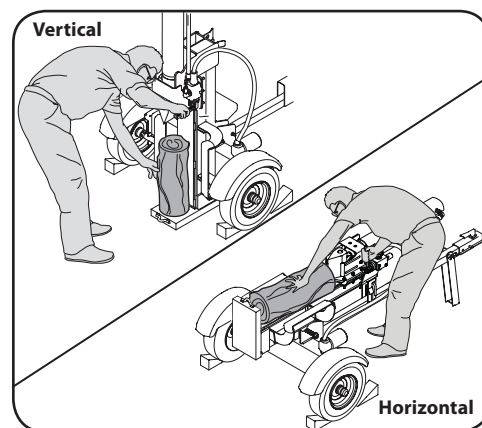

Figure 4-1
2. Block the front and back of both wheels. See Figure 4-1.
3. To stabilize the log, place your left hand on the side of the log opposite the beam as shown in Figure 4-1.